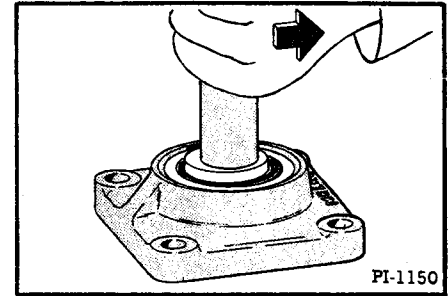

Fig. 57 Removing Bearing from Housing
6. Insert a length of shaft material (same diameter as the jackshaft) into the bearing and pull on the shaft until the bearing becomes free of the housing (Figure 57).
2. With a length of shaft material inserted into the bearing, rotate it into the housing (Figure 57). It should not take over 200 in. lbs. force to rotate the bearing into the housing.